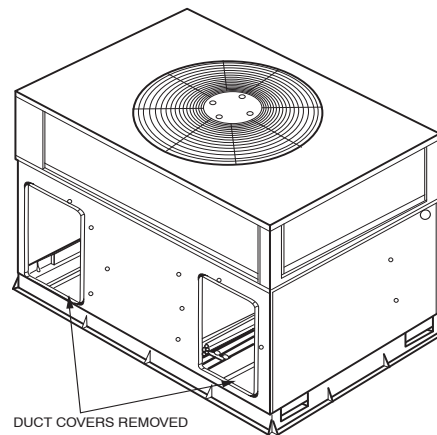

Fig. 10 - Vertical Duct Cover Removed
3. Use a screwdriver and hammer to remove the panels in the bottom of the unit base (See Fig. 10).